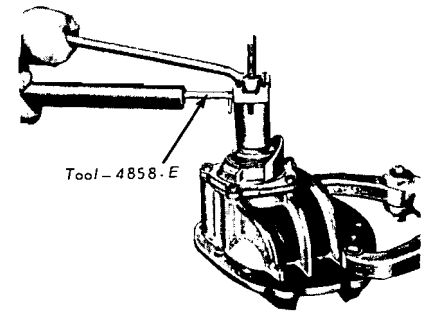

FIG. 49—Installing U-Joint Flange
7. Install the U-joint flange (Fig. 49).